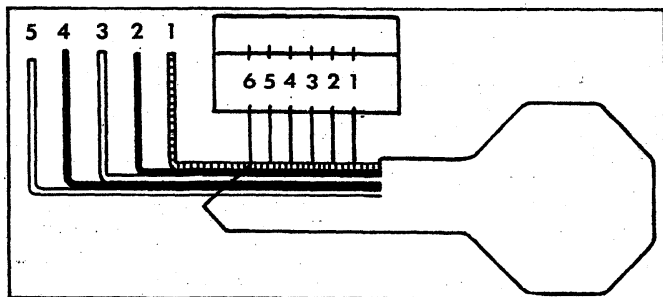

Fig. 19—Tumbler Requirement Diagram
In cases where a code book is not available, the diagram shown on Figure 19 may be used to determine the tumblers required to assemble an uncoded lock cylinder.
1. Lay the key on the diagram (fig. 19) with bottom of key flush with edge of the drawing, head and point carefully lined up.